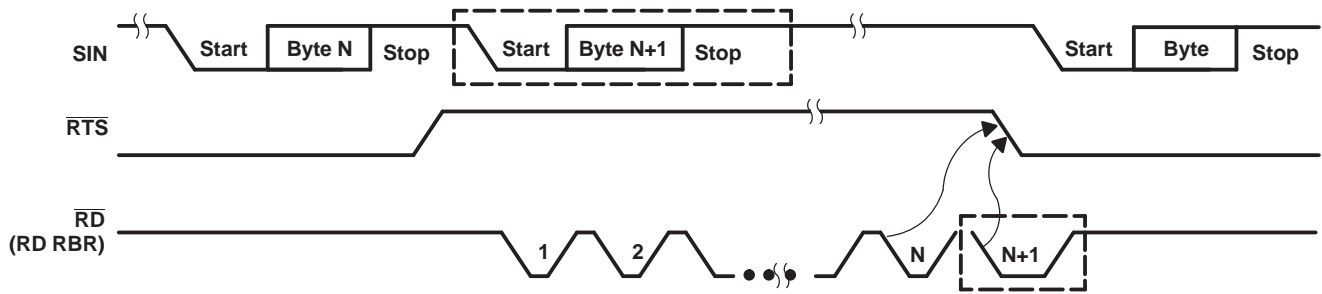

Figure 3.  $\overline{\text{RTS}}$  Functional Timing Waveforms, RCV FIFO Trigger Level = 1, 4, or 8 Bytes
**Auto-RTS (See Figure 3 and Figure 4)**
When the trigger level is 14 (see Figure 3), RTS is deasserted after the first data bit of the 16th character is present on the RX line. RTS is reasserted when the RCV FIFO has at least one available byte space.